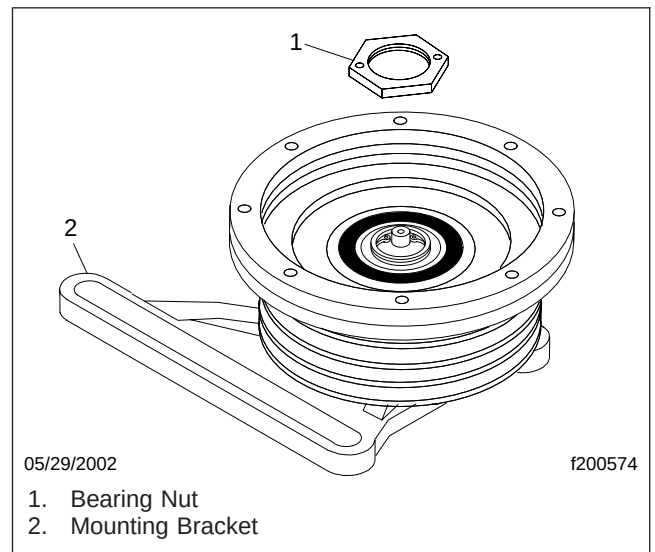
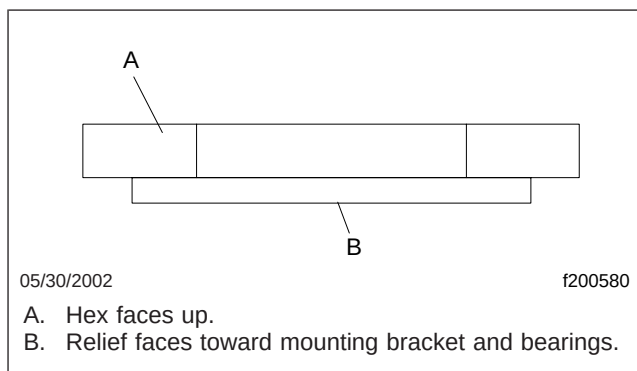

Fig. 7, Bearing Nut Removal and Installation
Fig. 12, Correct Bearing Nut Orientation
20. Remove the bearing nut from the mounting bracket. See Fig. 7.
- 2.4 Making sure that the bearing nut hex is facing up, install the bearing nut. See Fig. 12. Tighten 130 lbf·ft (176 N·m). See Fig. 7.